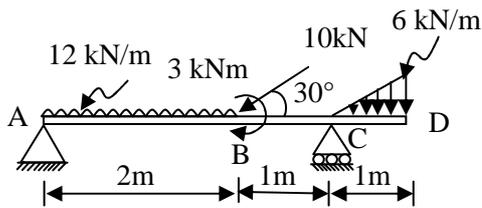

Fig. 3 Que. 2(c)
- (c) A simply supported overhang beam ABCD is loaded as shown in **fig. 3** Calculate shear force and bending moments at salient points and plot shear force and bending moment diagrams. Also locate point of contraflexure from support A. **07**